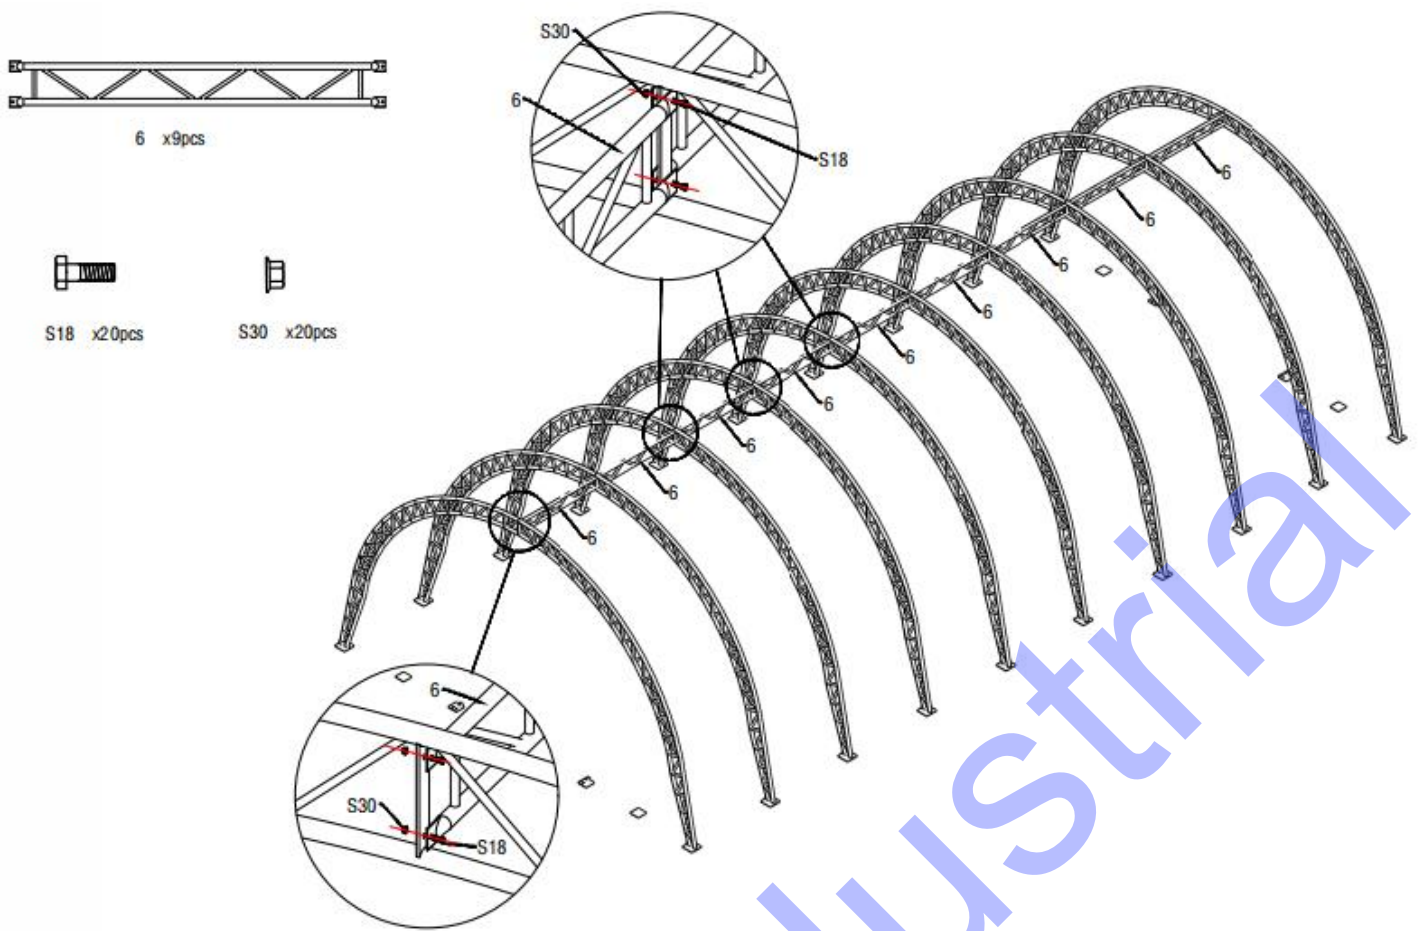

Figure 7
4. Above Figure 7 shown when finish installing all the arches into the base plates, use one group of Double Trussed Purlins (No.6) to connect them by Screw M10x30 (No.S18) . Then use other Purlins(No.7) to connect the arches by Screw M10X30 (No.18). In this turn, fix all other purlins. Finished stretch frame as below(Figure 7)